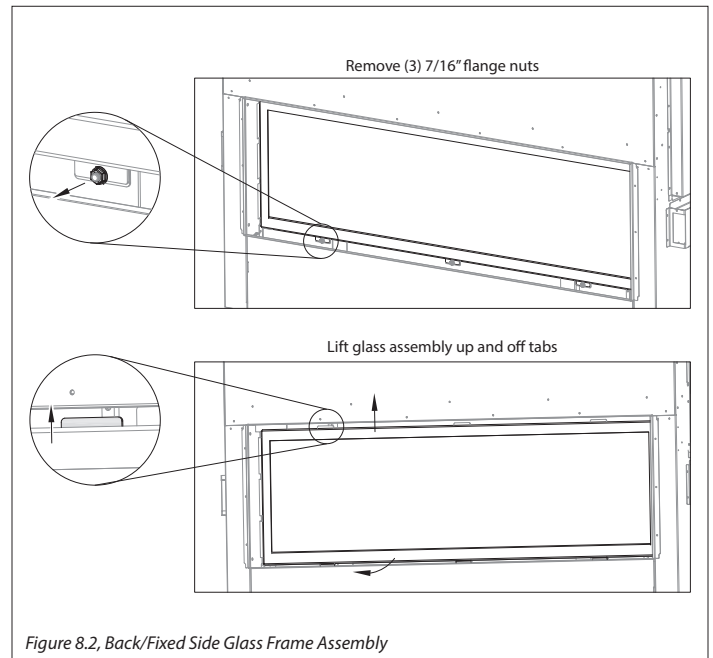

Figure 8.2, Back/Fixed Side Glass Frame Assembly
2. Locate the (3) 7/16" flange nuts below the fireplace opening securing the back/fix glass frame assembly. See Figure 8.2. Remove and save flange nuts.
3. Lift the back/fix glass assembly up and off of the (3) tabs located at the top of the firebox. See Figure 8.2.